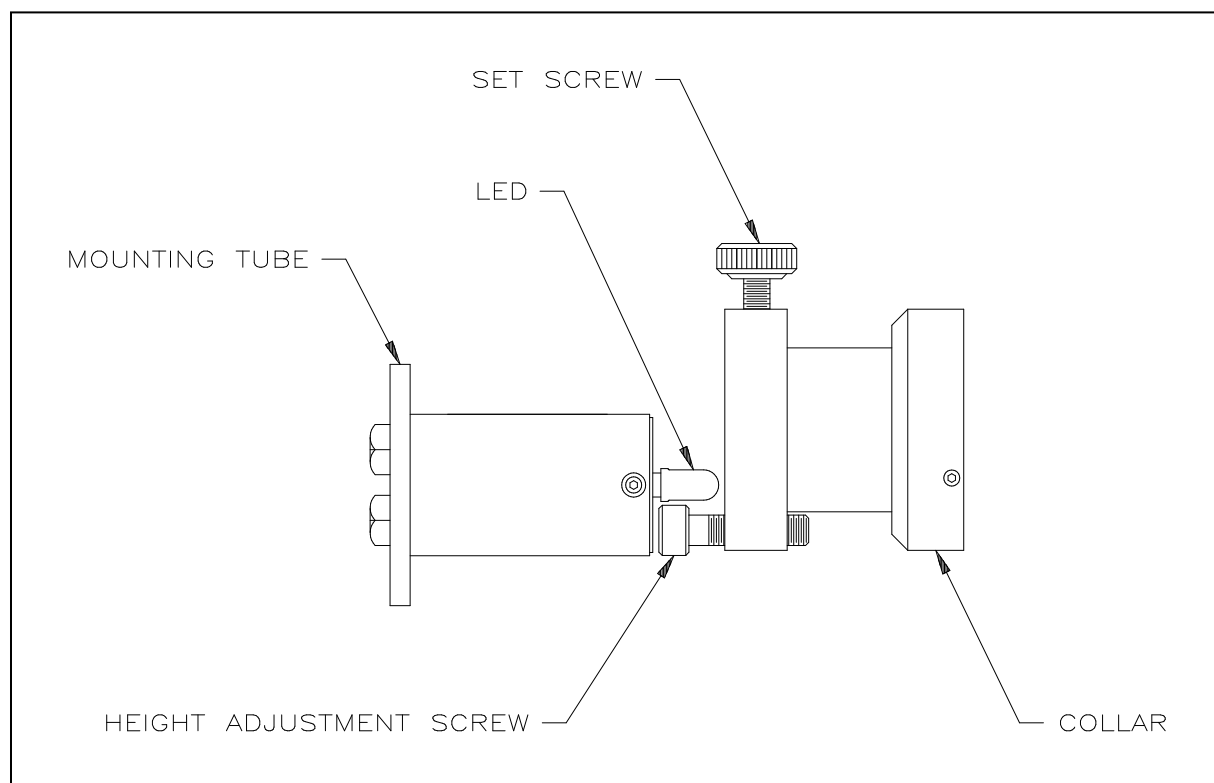

FIGURE 86 – IS-730 HEIGHT ADJUSTMENT
1. Referring to Figure 86 – IS-730 HEIGHT ADJUSTMENT position the tip of the LED so that it is directly adjacent to the Height Adjustment Screw, and resting on the outside surface of the Collar.